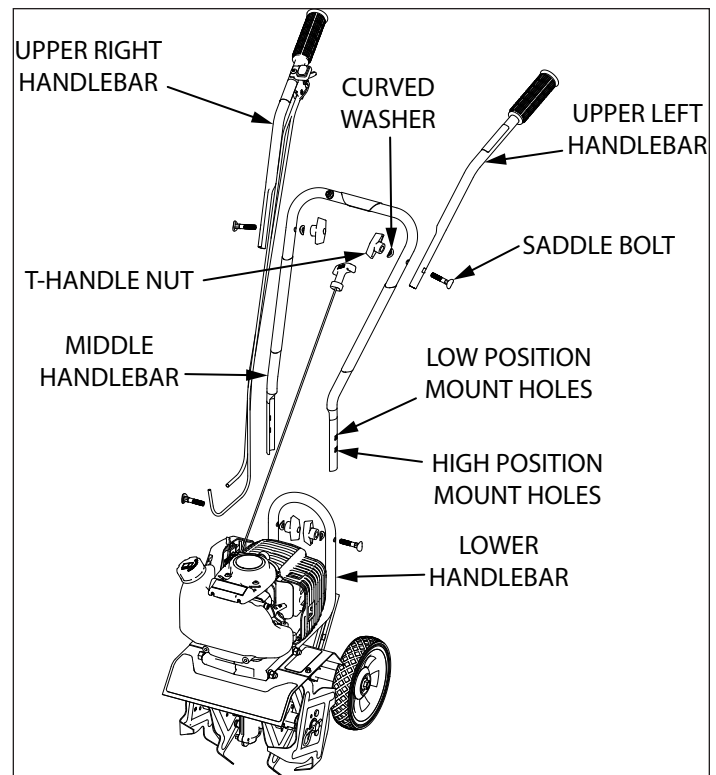

FIGURE 1
2. Using two T-handle nuts, two saddle bolts, and two curved washers, attach the middle handlebar to the lower handlebar that is already connected to the cultivator assembly (**SEE FIGURE 1**). Make sure the pull cord is in the center of the middle handle bar when attaching. The middle handlebar can be installed in one of two positions, one high and one low. **DO NOT** overtighten the T-handle nuts.
3. Attach the upper right and left handlebars to the middle handlebar using the two remaining T-handle nuts, saddle bolts, and curved washers (**SEE FIGURE 1**). **DO NOT** overtighten the T-handle nuts.